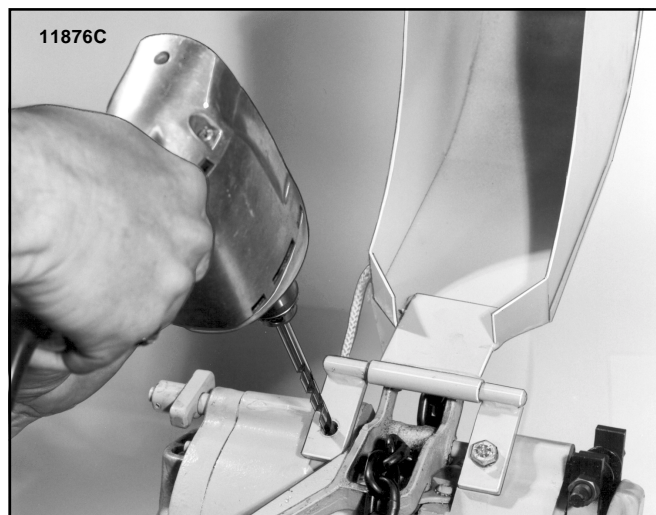

Figure 5. Drilling Hole in Frame Using Container Bracket as Guide
- Temporarily reposition container on hoist and bolt in place using 5/16" hex head bolt and lockwasher in hole just tapped. Recheck position of hinge by moving control lever as in Step 3 above. Center punch and drill second hole, using bracket as a guide (Figure 5).